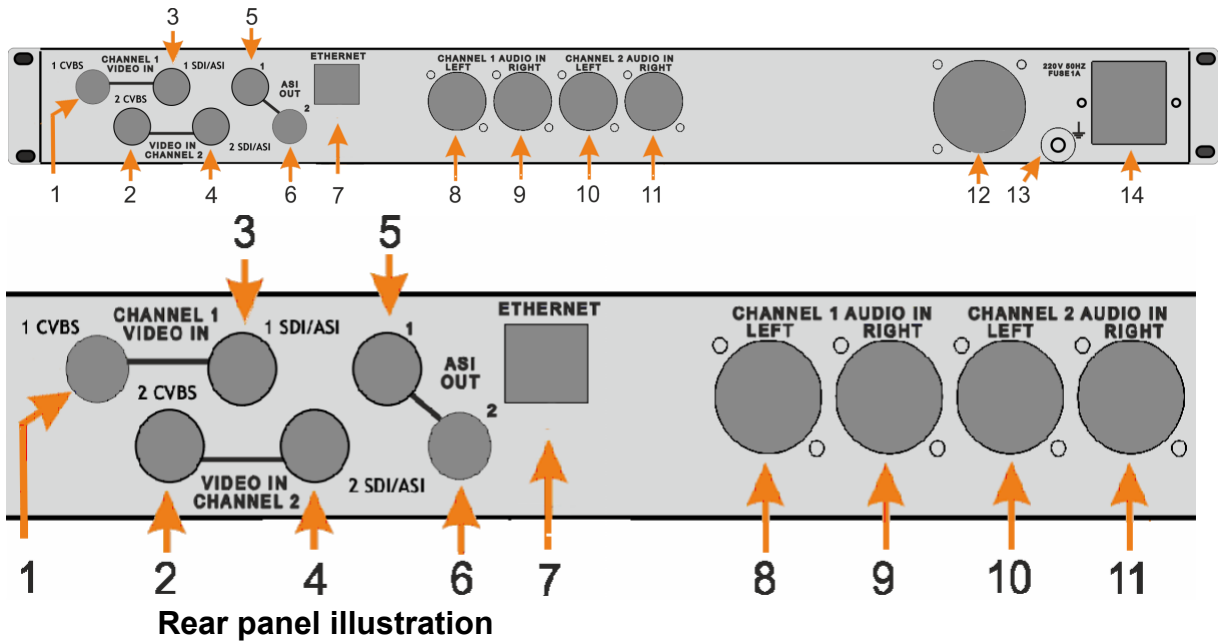

Fig.1.2
- Connecting Power Cord (14. Fig.1.2).
- Connecting ASI OUT to the device with ASI Input (5 or 6. Fig.1.2)
- Connecting communication port to PC via Ethernet for the Encoder Settings.(RJ45 7.Fig.1.2).